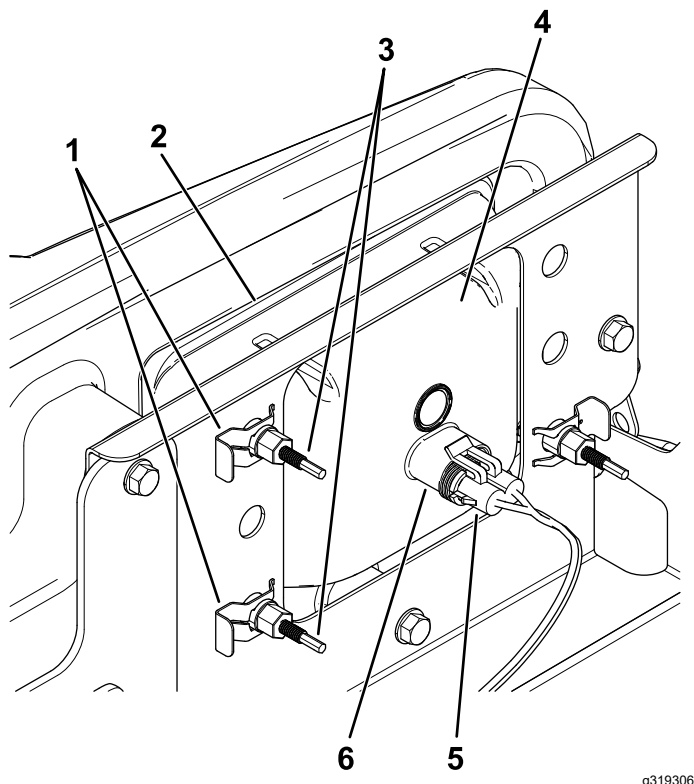

Figure 46
3. Disconnect the electrical connector for the harness from the connector of the lamp assembly (Figure 46).
4. Remove the speed clips that secure the headlight to the headlight bracket (Figure 46).
5. Remove the headlight assembly by moving it forward through the opening in the front bumper (Figure 46).
6. Install the new headlight through the opening in the bumper (Figure 46).
8. Connect the electrical connector for the harness to the connector of the lamp assembly (Figure 46).
5. At the back of the headlight assembly, rotate adjustment screws (Figure 46) to pivot the headlight assembly and align the position of the cast beam.